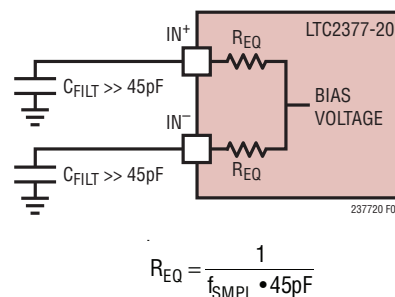

Figure 5. Equivalent Circuit for the Differential Analog Input of the LTC2377-20 at 500ksps.
**Fully Averaged** – If the coupling filter capacitors ( $C_{FILT}$ ) at the ADC inputs are much larger than the ADC's sample capacitors (45pF), then the sampling glitch is greatly attenuated. The driving amplifier effectively only sees the average sampling current, which is quite small. At 500ksps, the equivalent input resistance is approximately 44k (as shown in Figure 5), a benign resistive load for most precision amplifiers. However, resistive voltage division will occur between the coupling filter's DC resistance and the ADC's equivalent (switched-capacitor) input resistance, thus producing a gain error.